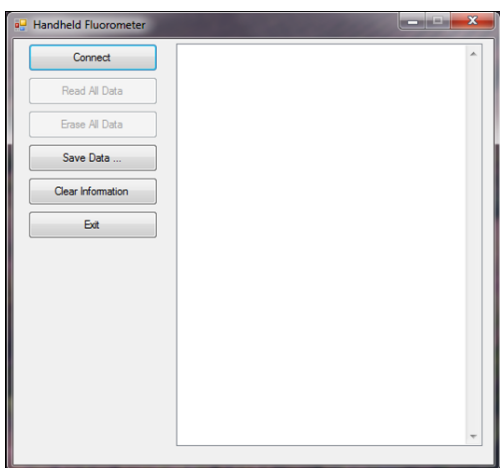

Figure 9. Fluorometer Data Manager window.
- Double click "Data Manager - User (Active)" shortcut icon on Desktop to bring up "Handheld Fluorometer Data Manager" window, as shown in Figure 9.